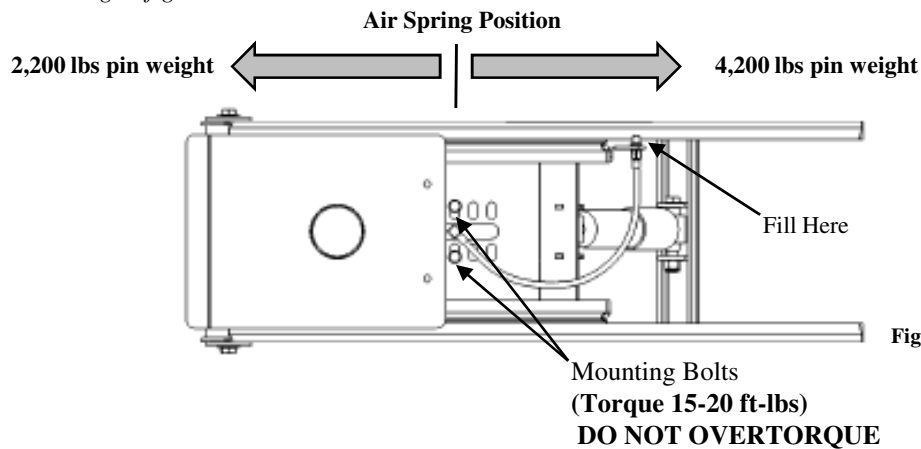
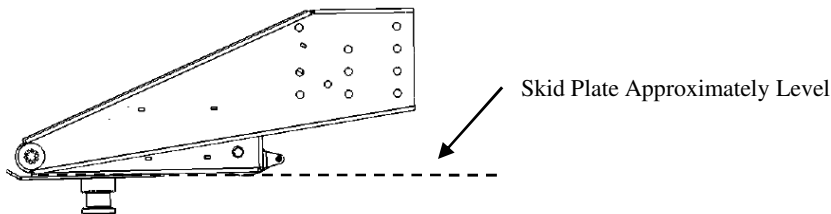

Figure 7
Figure 8
2. Add air to the air spring at the valve shown in figure 7. Continue adding air until the skid plate is level (on level ground) see figure 8. (Most units have the fill level label on the side of the lower jaw of the pin box, some will have the fill level label on the shock.)
The fill level line is a good reference for setting air pressure in the spring, if more performance is desired the air bag position and pressure can be adjusted to suite your preference. The air spring position can be adjusted by removing the mounting bolts shown in figure 7 and moving the bag as indicated per your loading condition. A good starting point for pressure setting is 80-100 psi. (Do Not Exceed 120 psi). If the ride is too soft, add more pressure. If the ride is harsh, remove pressure. If the pressure adjustment cannot maintain a satisfactory ride, reposition the air spring according to figure 7.